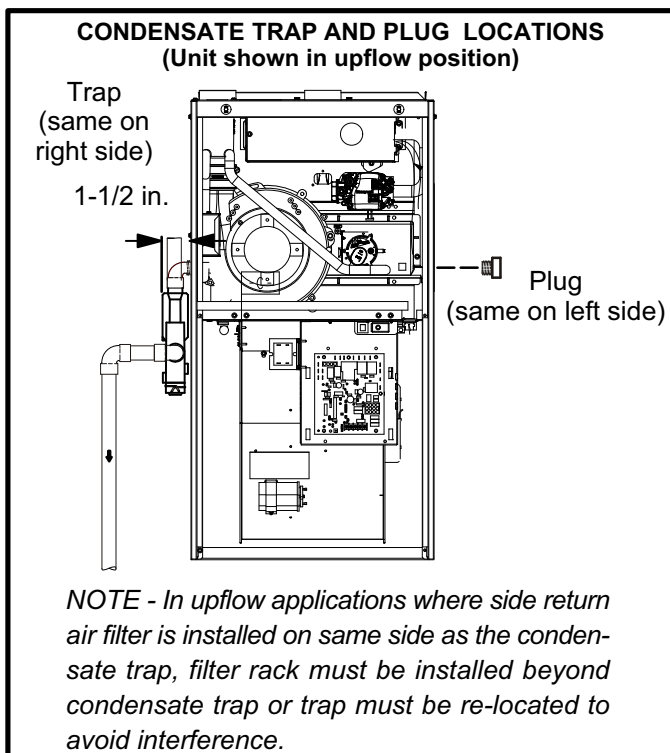
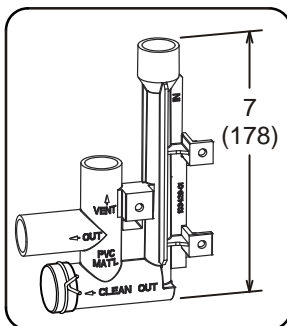

FIGURE 41
FIGURE 49
This unit is designed for either right- or left-side exit of condensate piping in upflow applications. In horizontal applications, the condensate trap must extend below the unit. An 8" service clearance is required for the condensate trap. Refer to figure 41 for condensate trap locations. Figure 49 shows trap assembly using 1/2" PVC or 3/4" PVC.
- 3 - Install the cap over the clean out opening at the base of the trap. Secure with clamp. See figure 49.
- 4 - Install drain trap using appropriate PVC fittings, glue all joints. Glue the provided drain trap as shown in figures 49. Route the condensate line to an open drain. Condensate line must maintain a 1/4" downward slope from the furnace to the drain.